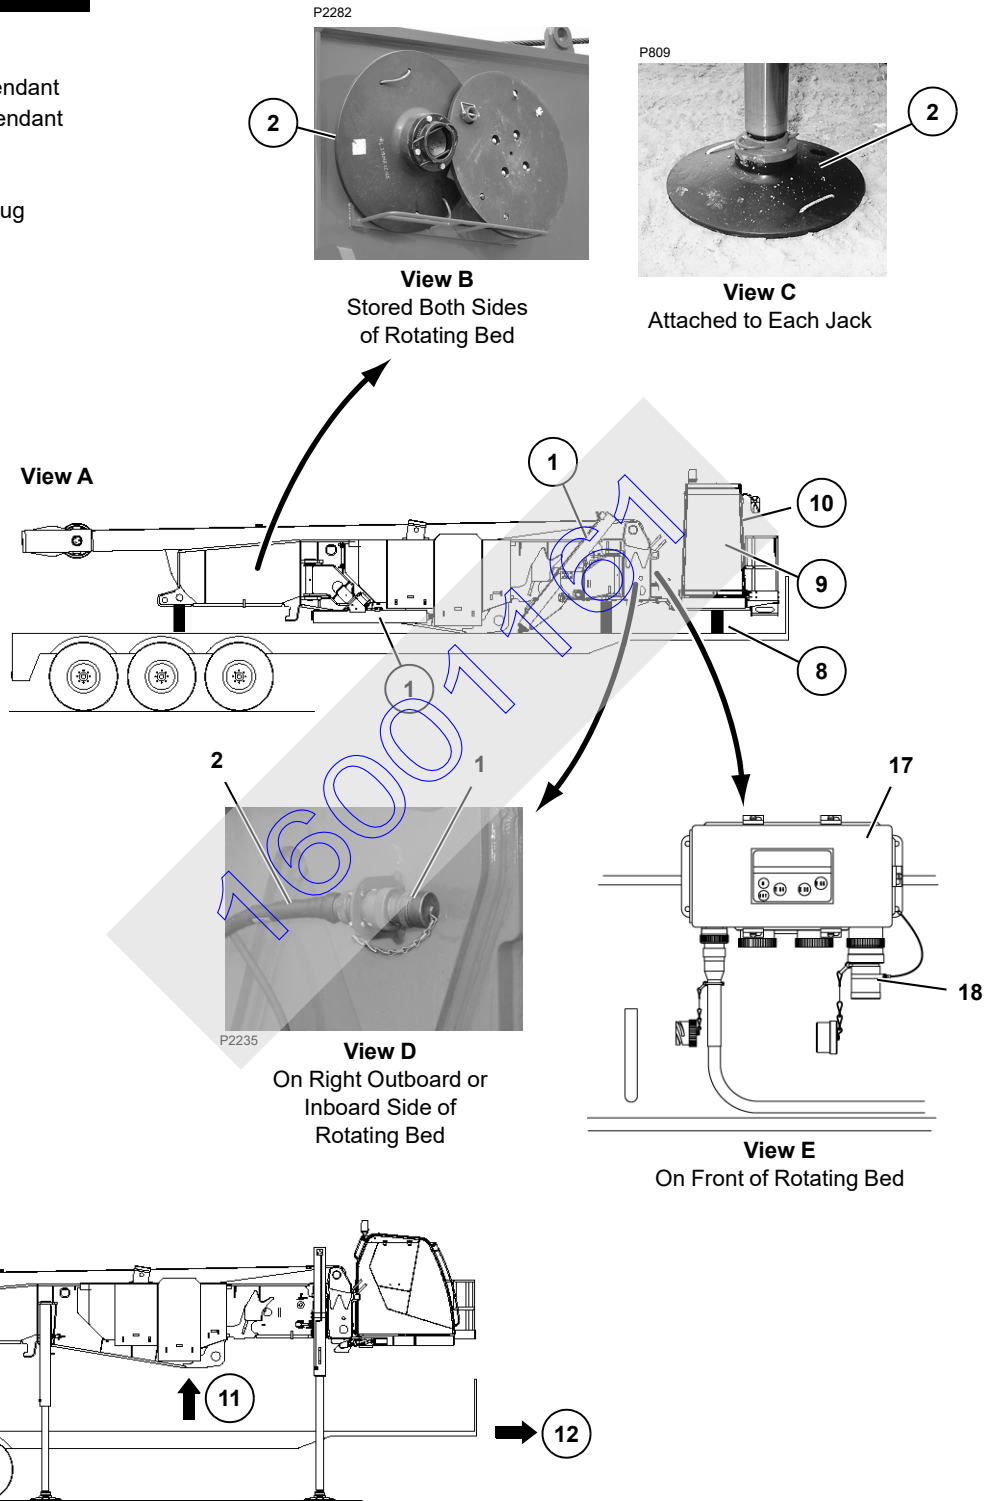

FIGURE 4-6
NOTE: The engine may not start (faults will occur) until terminator plugs (1, View D, Figure 4-6) and (16, View E) are connected to cable (2) and node (17).
See Figure 4-6 for the following procedure, unless otherwise specified. Circled numbers in Figure 4-6 correspond to the following steps.
FIGURE 4-6 continued